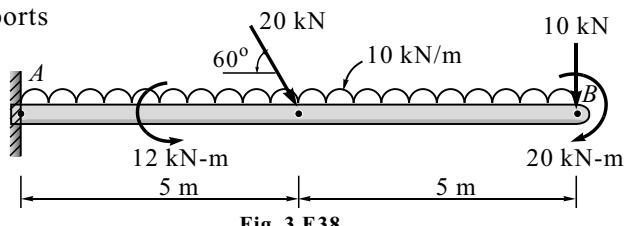

Fig. 3.E38
39. Calculate the reactions at A and B for the beam subjected to two linearly distributed loads as shown in Fig. 3.E39.